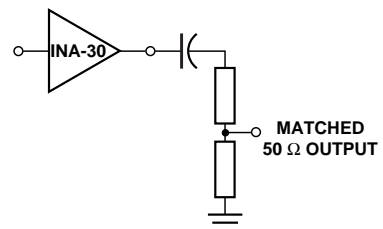

Figure 11. Impedance Matched Output.
- A second implementation, shown in Figure 11, uses a simple reactive network at the amplifier’s output to match the output impedance to 50 Ω .
This section describes a demonstration circuit for 900 MHz that is based on the matched output configuration shown in Figure 11.